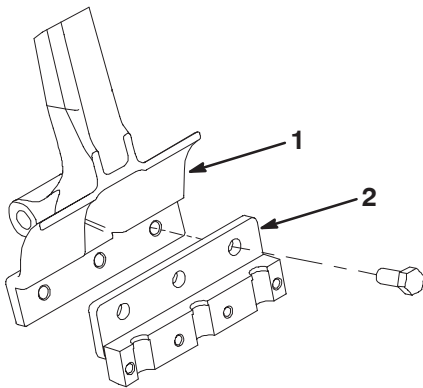

Figure 23
2. Mount a tine holder to each tine arm with (3) 1/2 x 1-1/4 in. capscrews (Fig. 23). Torque capscrews to 75 ft.-lbs. (Capscrews provided in tine holder kits)